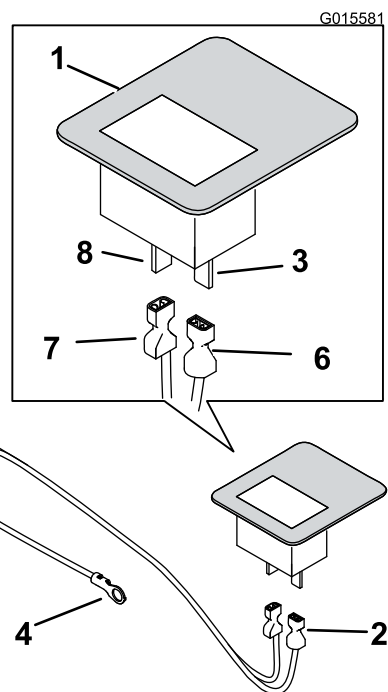

Figure 5
3. Install the positive female connector (red wire) to the positive male plug and install the negative female connector (black wire) to the negative male plug (Figure 5).
4. Locate the piggy back terminal at the opposite end of the wiring harness (Figure 5).